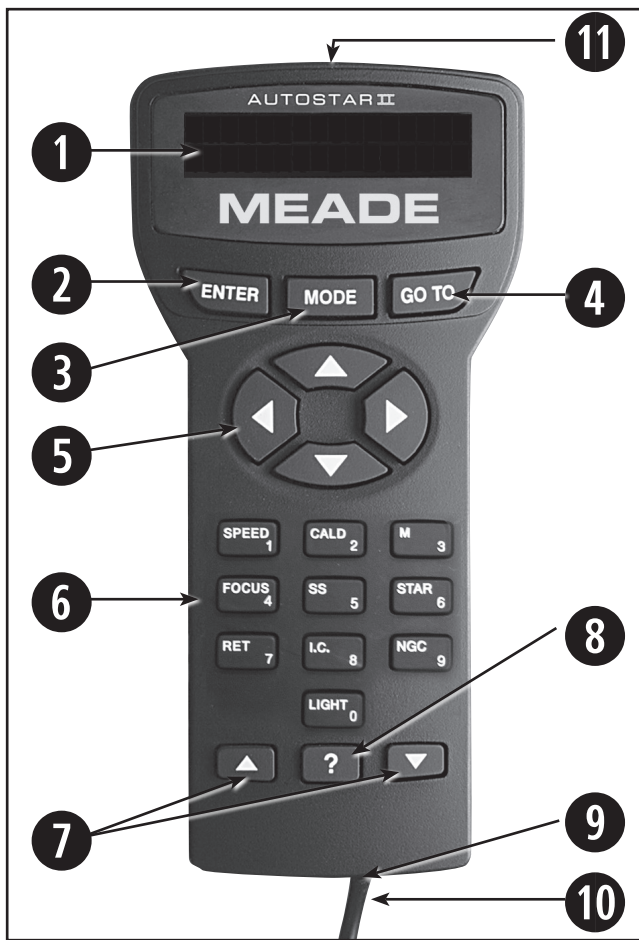

Figure 2: The AutoStar II handbox
Note: If MODE is pressed and held for two seconds or more, information about the telescope’s status displays. When the status displays, press the Scroll keys (**Fig. 2, 7**) to display the following information:
Additionally, use the Arrow keys to move the cursor across the display: Use the Right or Left Arrow key (**Fig. 2, 5**) to move the cursor from one number to the next in the display.
⑨ **Coil Cord Port:** Plug one end of the AutoStar II coil cord (**Pg. 14, Fig. 2, 10**) into this port located at the bottom of the AutoStar II handbox.